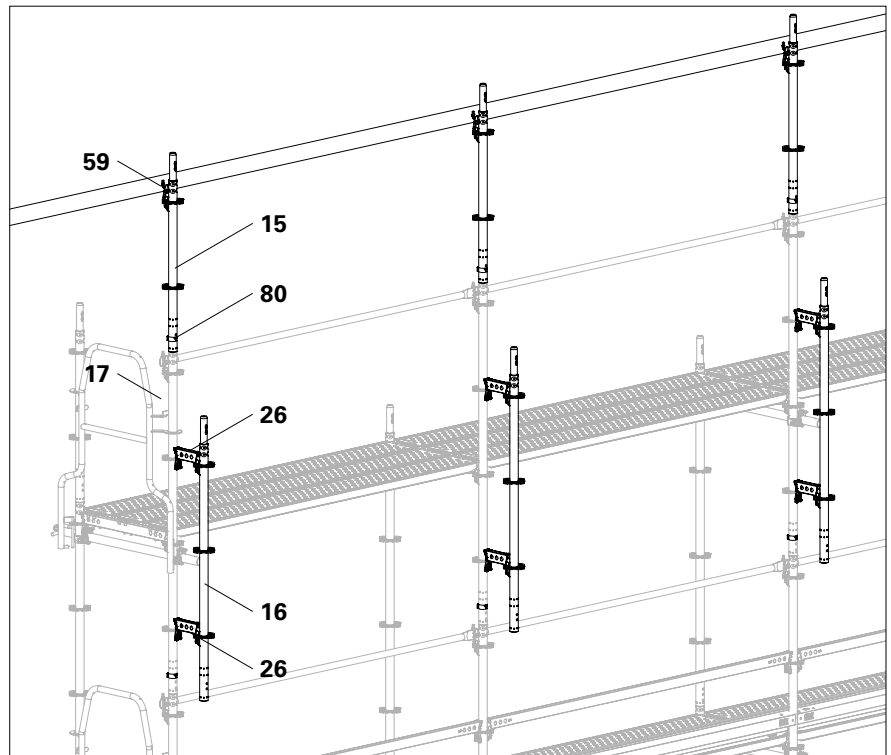

Fig. C2.03
4. Fit this assembly onto the outer leg 50 cm below and above the scaffold level using the horizontal ledgers. (Fig. C2.03)